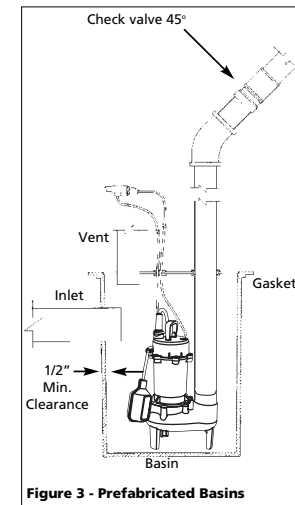

Figure 3 - Prefabricated Basins
6. The pump has a detachable tether switch with a piggyback plug (see figure 3). The length of the tether (distance of cord from float to clamp) should not be set shorter than 3-1/4 inches and should not be used in a basin smaller than 14 inches in diameter. If using a differential other than the factory setting, be sure when the pump shuts off at least 4" of fluid is left in the basin so the impeller remains submerged.